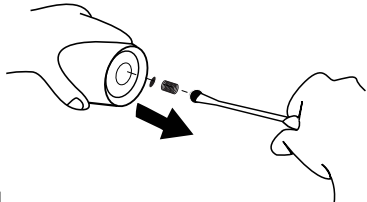

Figure 4
2. Remove filter screen/spring assembly. Clean with compressed air or replace if damaged. (See Figure 4)